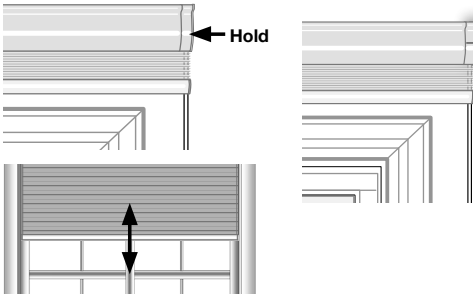

Fig. 2
B. Press and hold the button on the headrail/motor end until the LED begins to flash green (about three seconds), and release. The LED on the motor will turn solid green, then turn off and the shade will jog, confirming exclusion. (Fig. 2)